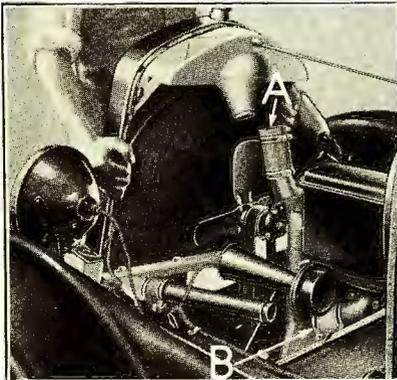

Fig. 529
- 1131 Lift radiator off of studs—radiator inlet connection together with outlet pipe can then be withdrawn from hose connections (see "A" and "B" Fig. 529) and radiator lifted from car.
- 1148 Insert cylinder head outlet hose over end of radiator inlet connection (see "A" Fig. 529). Insert radiator outlet pipe into outlet hose connection "B" making sure that the lower hose connection is underneath lighting wire loom. Position radiator over ends of studs, seating radiator firmly on lower thimbles. Place upper thimbles (see "B" Fig. 526) over ends of studs. Run down radiator stud nuts "A" sufficiently far to permit locking them with cotter keys. Insert radiator stay rod into bracket on dash and run down and tighten lockwasher and nut (see Fig. 528). Tighten hose clip screws on top and side hose connections.